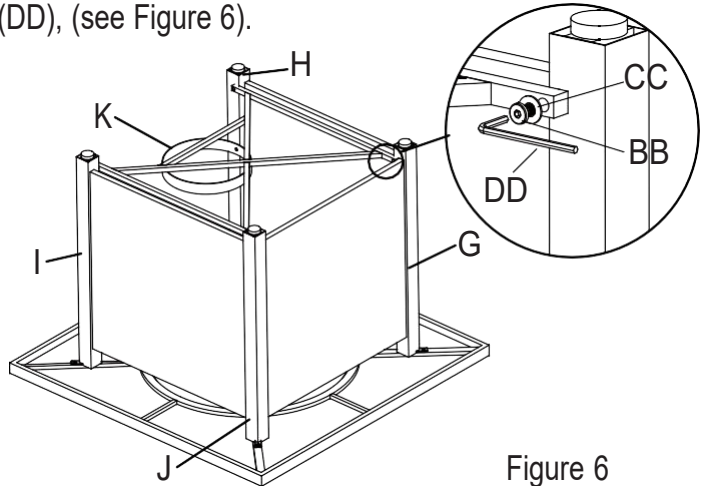

Figure 6
6. Attach gas cylinder support (K) to back-left leg (I) and back-right leg (J) and front-left leg (H) and front-right leg (G) with bolts (BB) and washer (CC) using hex screw driver (DD), (see Figure 6).